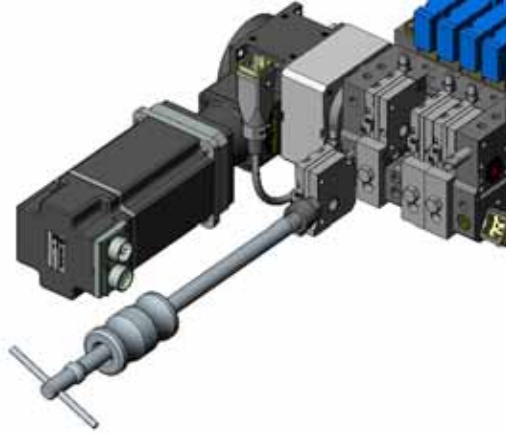

Figure 7-9 Using a pump puller to remove a pump
6. See Figure 7-9. Screw the pump puller into the threaded port provided on the back (clamp) side. Lightly tap the slide hammer against the rear of the pump puller to facilitate the removal of the pump assembly.